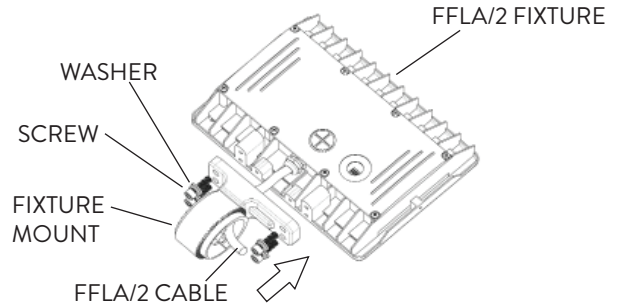

FIG. 25
- 5 Place the Fixture Mount on the FFLA/2 fixture and fasten them together with the Screws and Washers (Fig. 25).